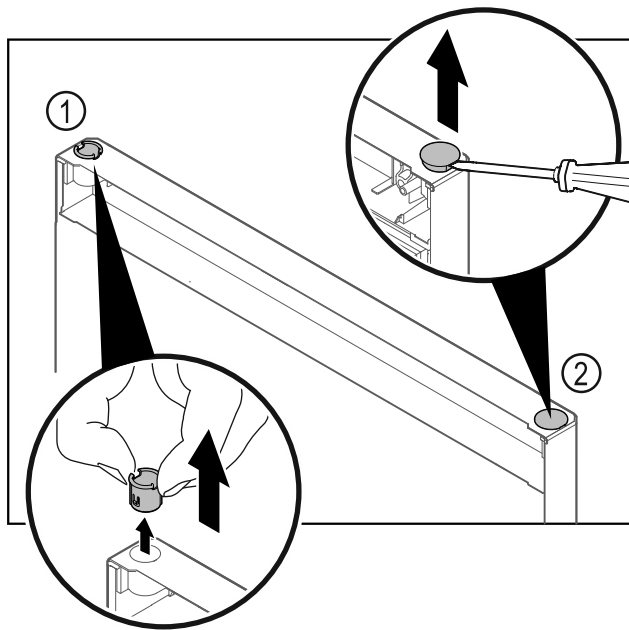

Fig. 28
- Pull out the hinge bushing *Fig. 28 (1)* with your fingers.
- Carefully lift the cover plug *Fig. 28 (2)* with a slotted screwdriver and pull it out.